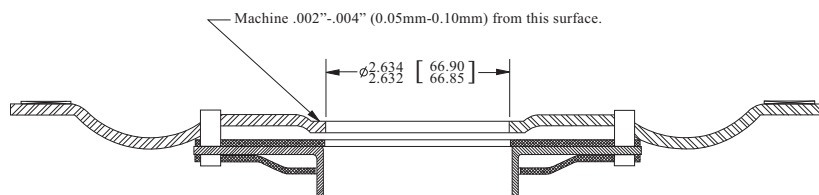

Figure 1
3. Bore the inside diameter to 2.632"/2.634" (66.85mm/66.90mm), and chamfer to accept repair sleeve as shown in Figure 1.
4. Machine .002"-.004" (0.05mm/0.10mm) from the surface immediately adjacent to the inside diameter bore, as shown in Figure 1. This will ensure a flat mating surface for the sleeve flange. If .005" (0.13mm) or more material must be removed to obtain a flat surface, the piston is most likely bent and should be discarded.